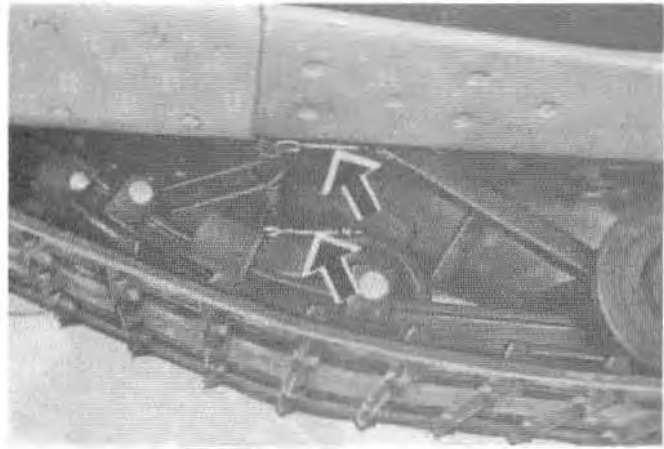

Fig. 9—Adjusting Front Spring Tension
1. Turn adjusting nuts counterclockwise to reduce tension or clockwise to increase tension, Fig. 9.